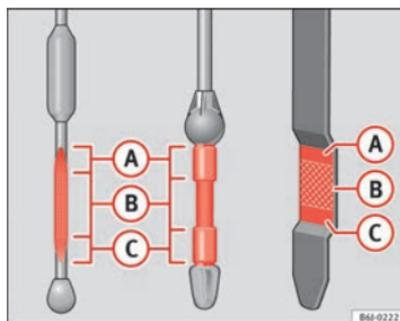

Fig. 125 Engine oil dipstick
- Then pull it out once more and check the oil level ⇒ fig. 125. Top up with engine oil if necessary.